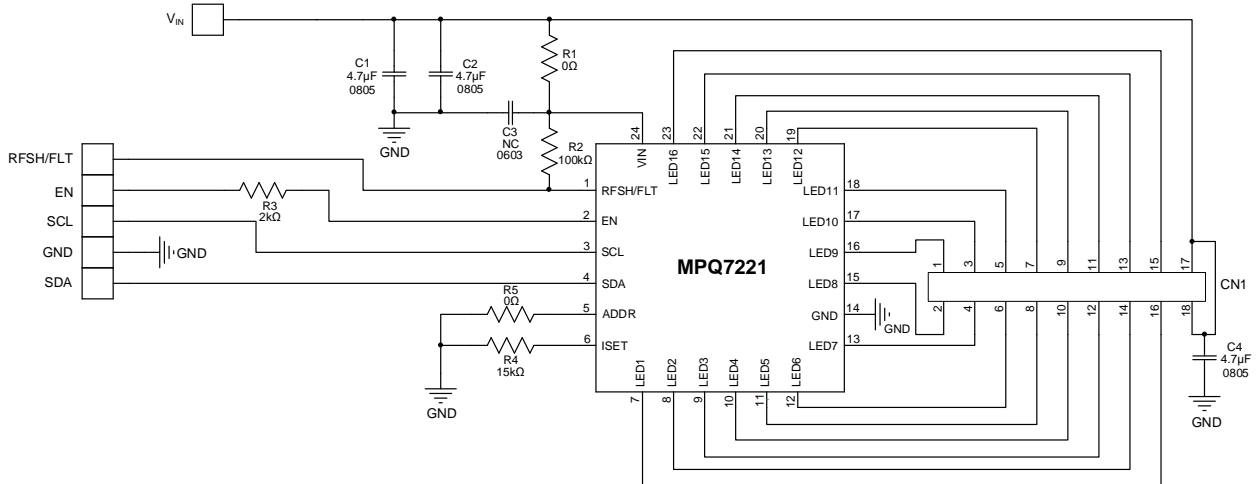

Figure 9: Typical Application Circuit ($I_{LED} = 80\text{mA}/\text{Channel}$)
- 9) The recommended layout is based on Figure 9 on page 35.